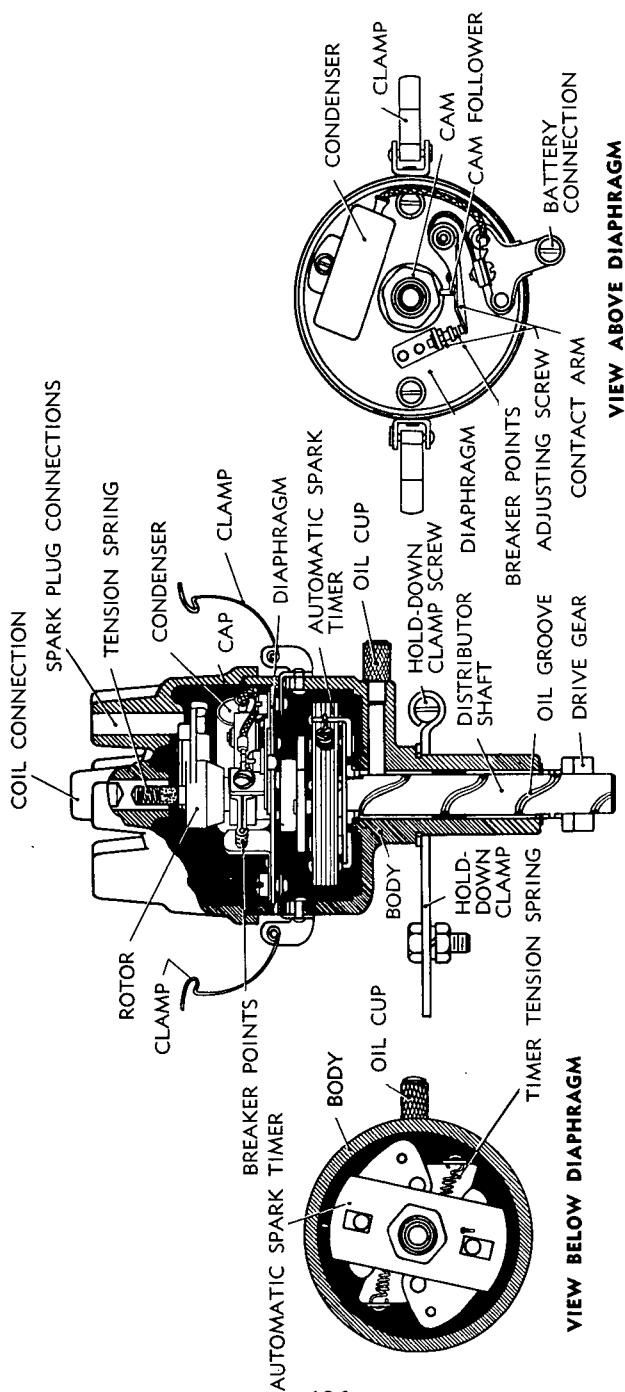

Figure 66—Distributor Diagrams
(2) CONNECT LEADS. Attach center snap-on lead and side leads from distributor and ignition switch.
78. DISTRIBUTOR (fig. 66).
c. Trouble Shooting.**(1) ENGINE WILL NOT START.**